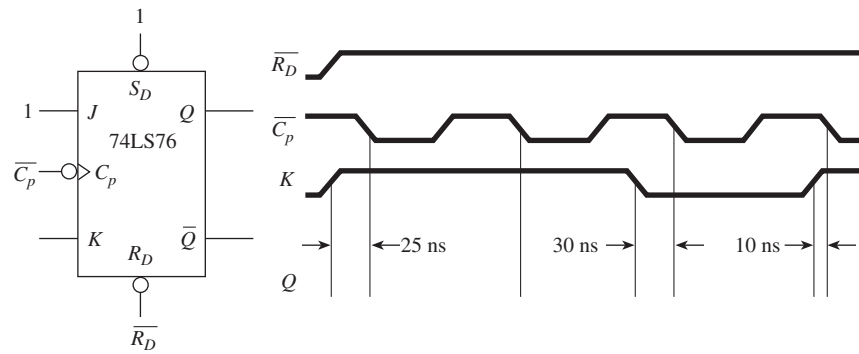

Figure P1
1. Sketch the Q output waveform for a 74LS76 given the input waveforms shown in Figure P1 [use $t_s(\text{L}) = 20 \text{ ns}$, $t_s(\text{H}) = 20 \text{ ns}$, $t_h(\text{L}) = 0 \text{ ns}$, $t_h(\text{H}) = 0 \text{ ns}$, $t_{\text{PLH}} = 0 \text{ ns}$, $t_{\text{PHL}} = 0 \text{ ns}$].